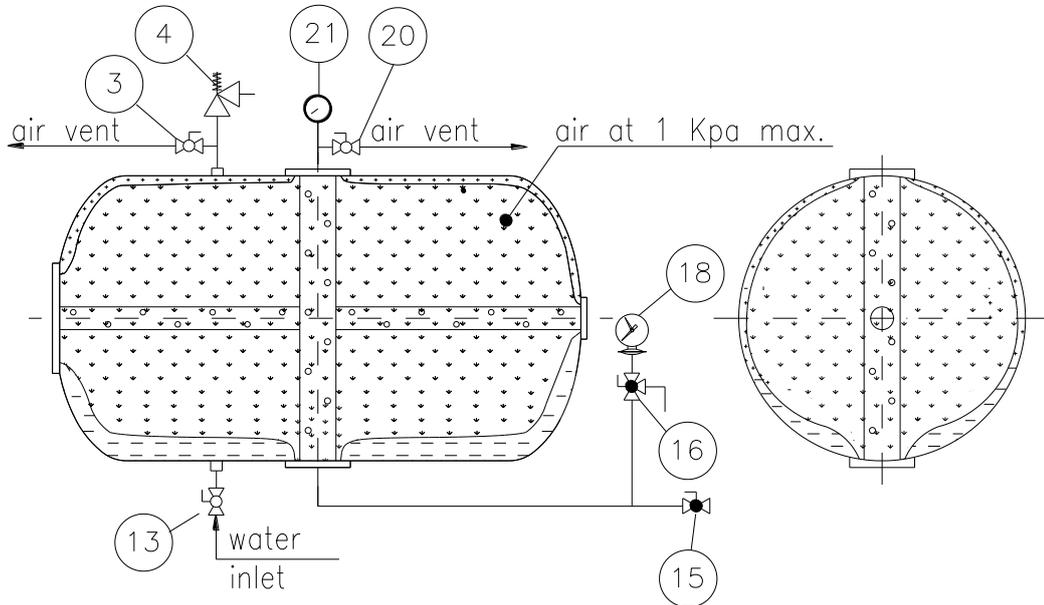

Figure a.5
6. Close valve (15) and disconnect the air compressor.
7. Open valve (13), connect it to the pump by the hose, open partially the valve (20) and slowly pump water into the tank, venting the air through the valves (3) and (20) in such a way to maintain always a pressure of maximum 1kPa checking the pressure gauge (21); stop when the water fed into the tank is approximately 10% of the total capacity of the tank (figure a.5).